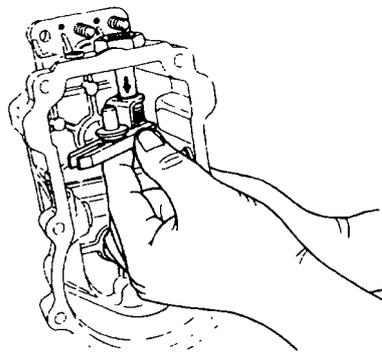

Figure 97 Removing the Control Lever Shaft and Floating Lever Assembly
- w. Remove the control lever shaft and floating lever assembly from the governor cover (Figure 97).